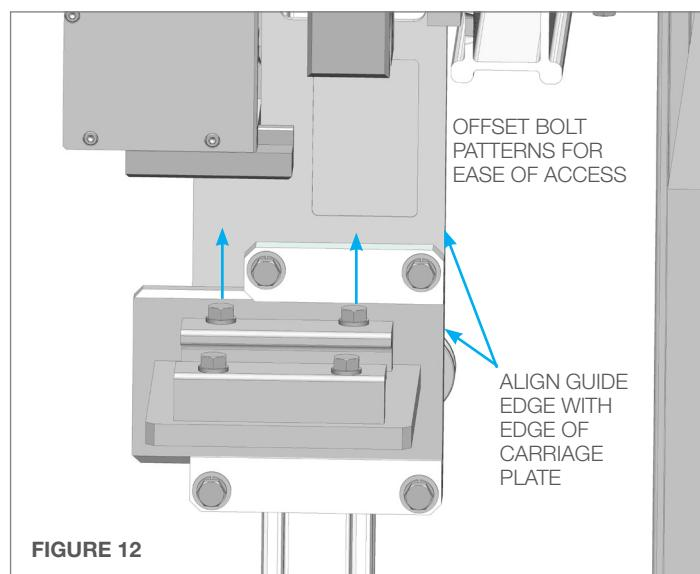

FIGURE 12
12. Align the edge of the **Guide Plate Assembly** to the Edge of the Carriage Plate. This will offset both bolt patterns and allow for easier access when tightening the Guide Clamp Bolts. (**Figure 12**)